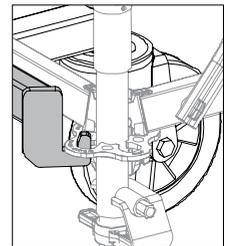

Fig. 19b
2. Adjust the height by means of the Winch (6) so that the rosetts are connected to the support hooks (3.7) and the Ledger with the holding pockets (3.4). (Fig. 19b)